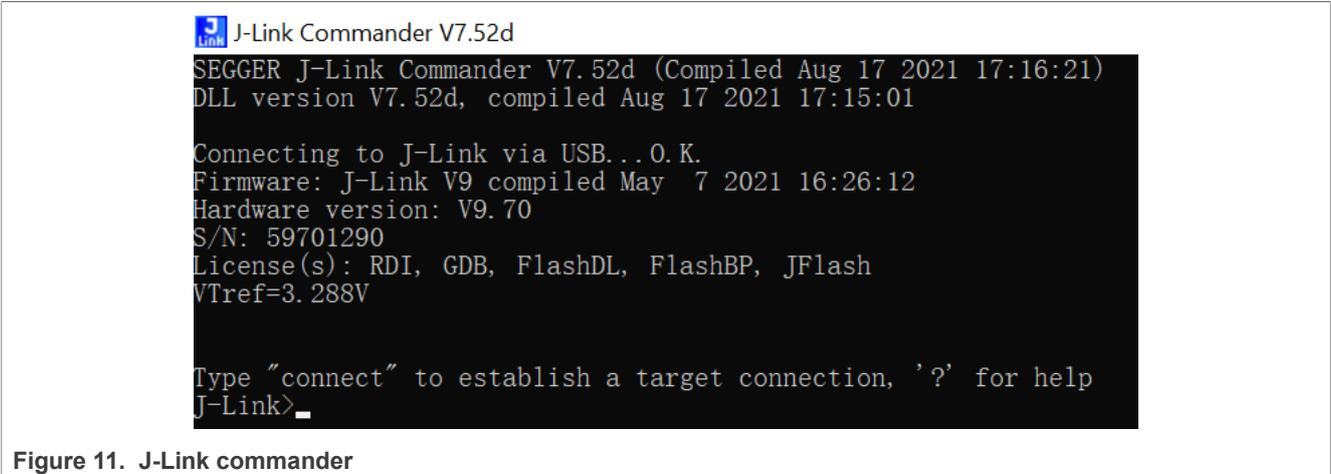

Figure 11. J-Link commander
- Open the **J-Link Commander**. Figure 11 shows the operation interface.